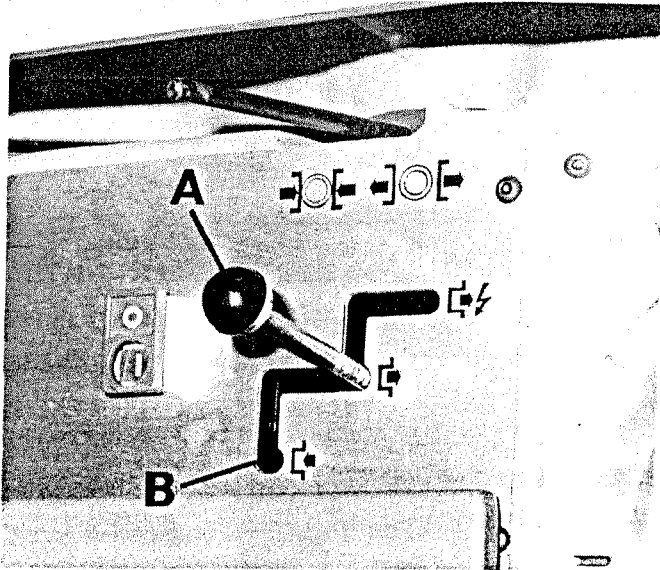

FIG. 8.
2. Move spindle lock lever "A", FIG.8, towards spindle lock position "B" and rotate spindle by hand until spindle lock engages.